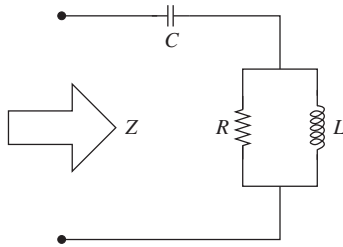

Figure P5.24 A capacitor connected in series with a parallel combination of resistor and inductor for problem P5-24.
- 5-24.** In the circuit shown in Fig. P5.24, the impedances of the various components are $Z_R = R \Omega$, $Z_L = jX_L \Omega$, and $Z_C = \frac{1}{j}X_C$, where $j = \sqrt{-1}$. Suppose $R = 120 \Omega$, $X_L = 120\sqrt{3} \Omega$, and $X_C = \frac{1}{50\sqrt{3}} \Omega$.